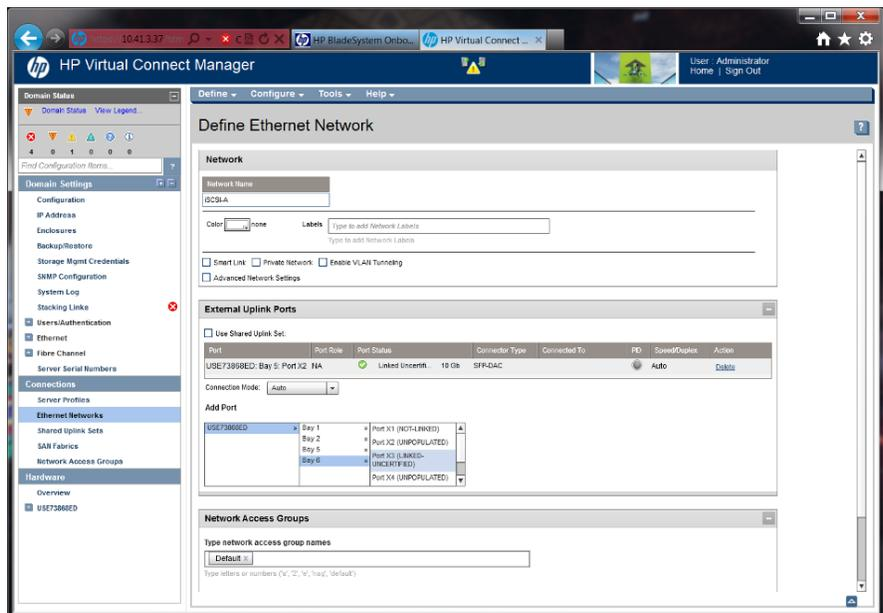

Figure 19: Creating a new Ethernet network.
8. Under Add Port, click the enclosure name, click Bay 5, and click the port or ports that you wish to dedicate to iSCSI traffic. (See Figure 19.)